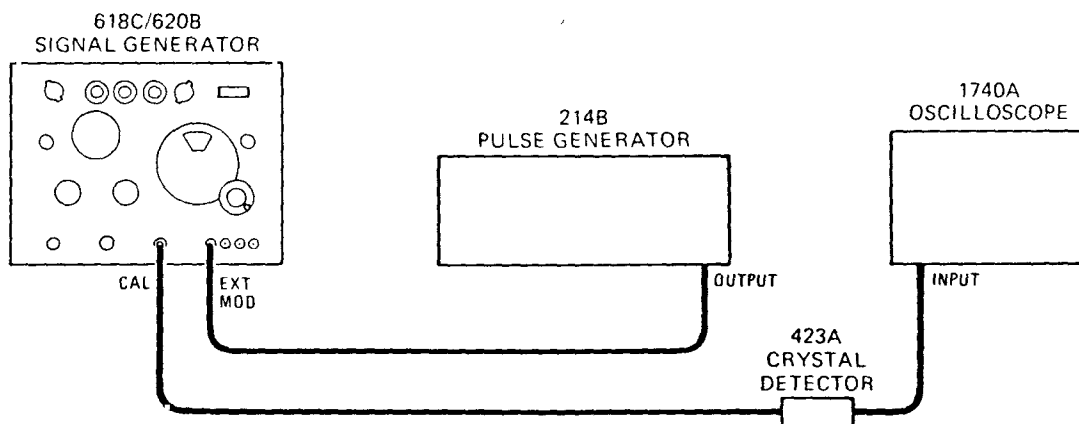

Figure 5-4. Setup for Testing External Pulse Modulation
- a. Connect Signal Generator in test setup shown in Figure 5-4.